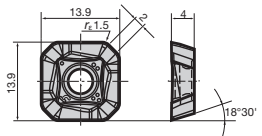
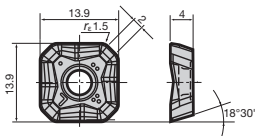

Fig. 1
Fig. 2
- When using the wiper insert, install the insert as shown in Fig. 1. If the insert is installed as shown in Fig. 2, breakage of the insert is inevitable and normal surface finish can not be obtained.